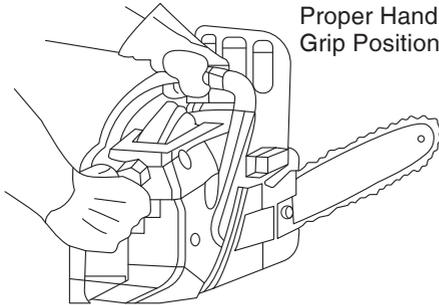

Fig. 11
- Hold the saw firmly with both hands. Always keep your left hand on the front handle and your right hand on the rear handle, so your body stays to the left of the chain line (Fig. 11). Use this hand placement even if you are left-handed.